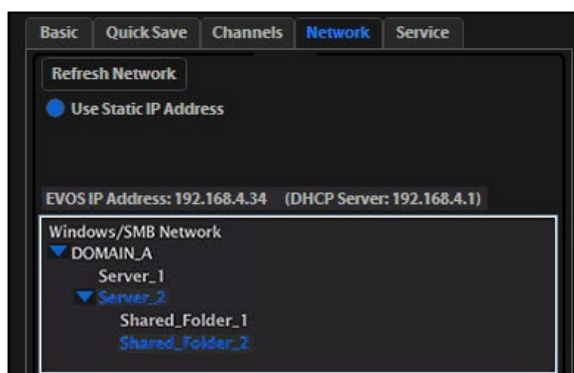

Figure 27 Windows/SMB Network
- Enter your network domain, user name, and password in the login fields and select a server to view the top level of shared folders on that server. You may now navigate below the top-level shared folders on the Network page (Figure 27).